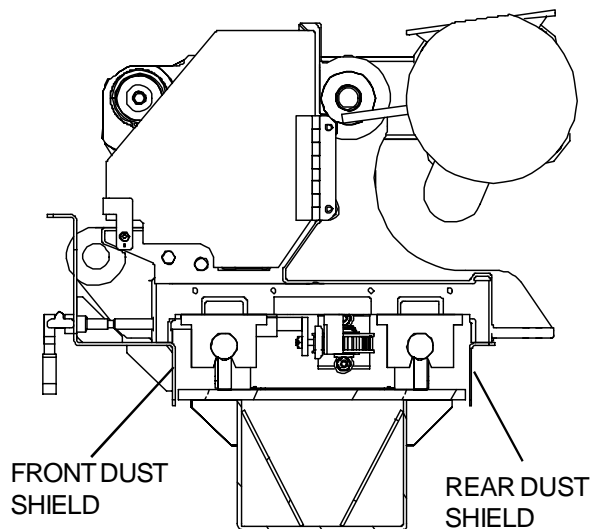

FIG. 15
STEP 1--Detach the bellows mounting brackets from the carriage. Detach front and rear shields. See FIG. 15.
STEP 6--Replace the bellows carriage mounting brackets onto the carriage. Replace front and rear shields. See FIG. 15.